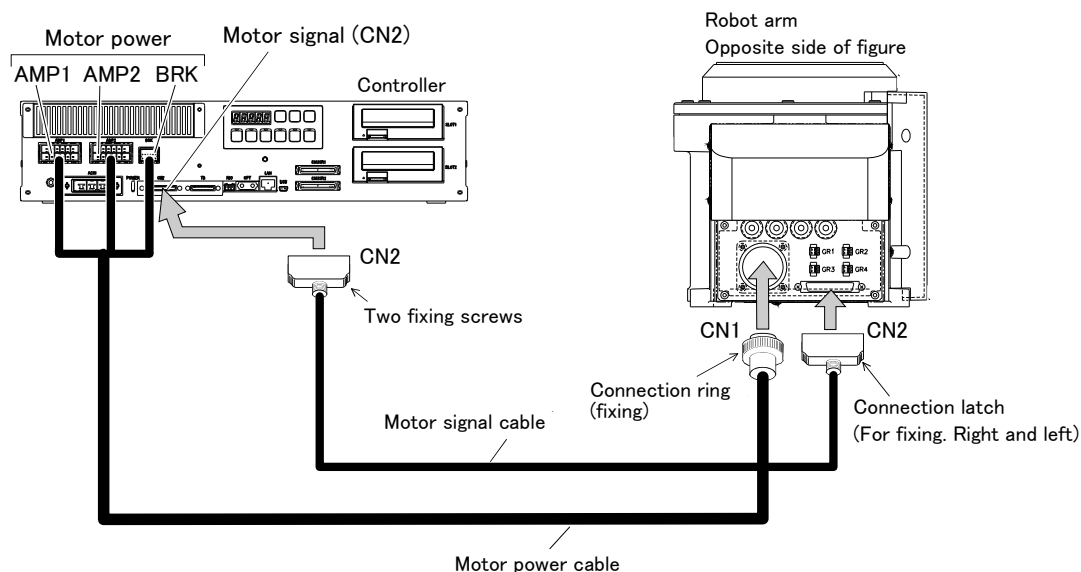

Fig.2-7 : Connecting the machine cables (CR751)
- 2) Refer to Fig. 2-7 and connect the machine cable to its corresponding connector on the robot arm side and controller.